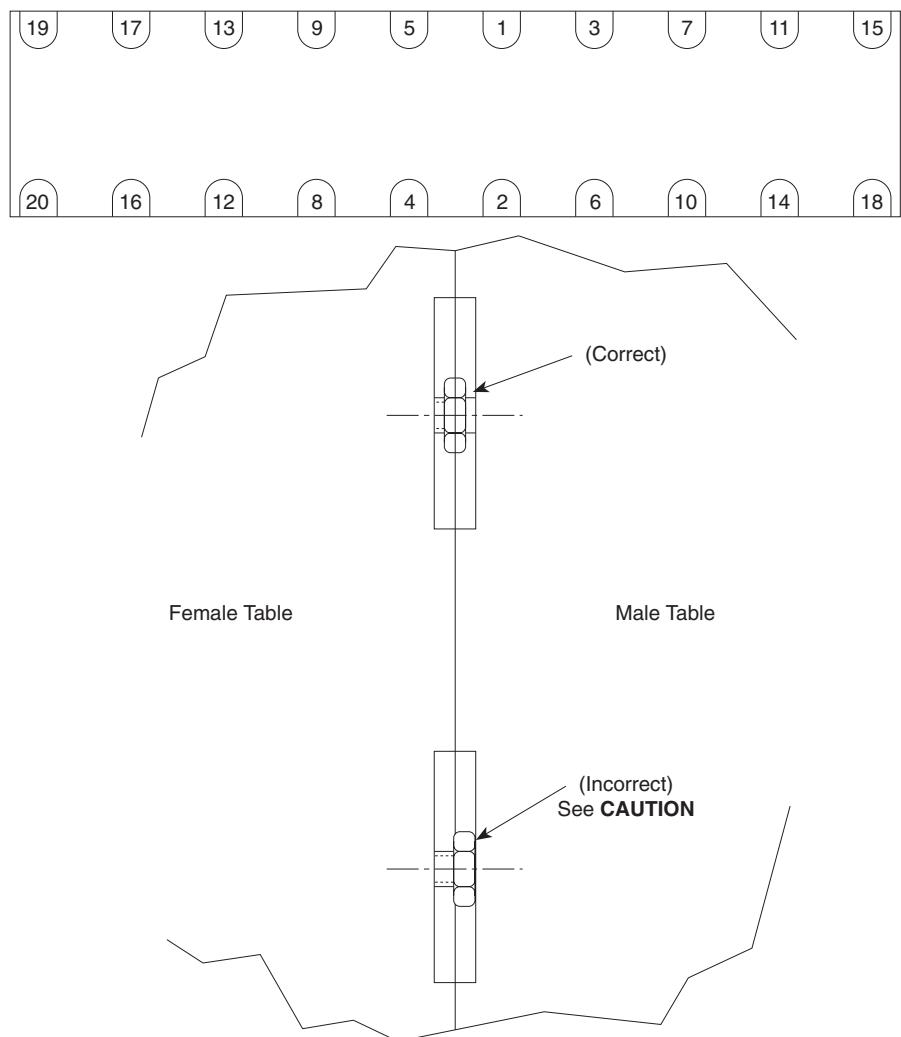

Figure 2.13 — Double Bolt Tightening Sequence
Do not force the bolts. The second table section should be easily pulled up to the first. Figure 2.13 shows correct bolt head position during assembly.
- J. When all bolts are snug, apply a final torque of 60 pound-feet (80 N·M) to all bolts using the sequence shown in Figure 2.13.